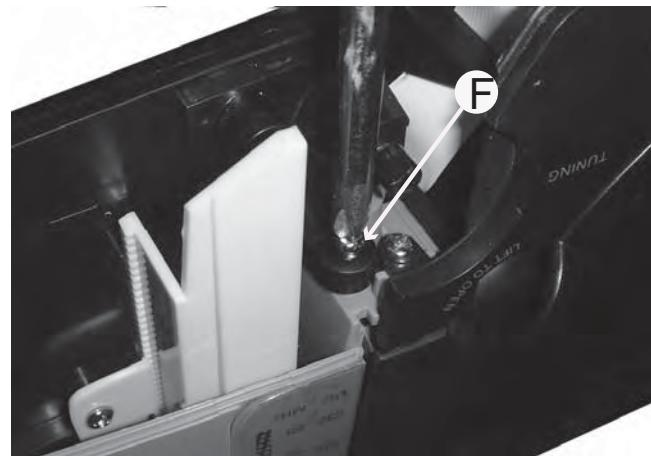

Figure 9
- 1) Loosen 1 screw " F " which location close to tuning button as shown in figure 9 .